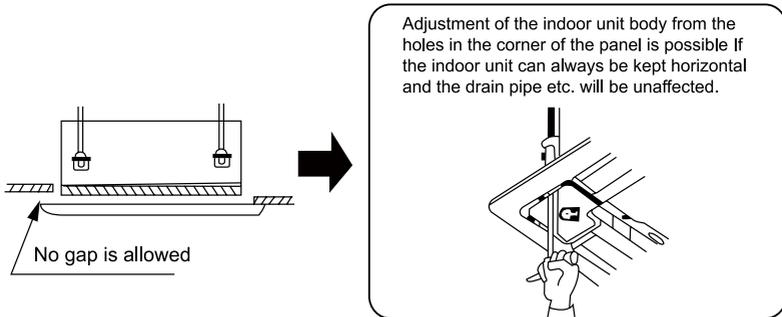

Fig.35
- (3). If gap still exists between ceiling and decoration panel after tightening the screws, readjust the height of the indoor unit. (Fig.35)